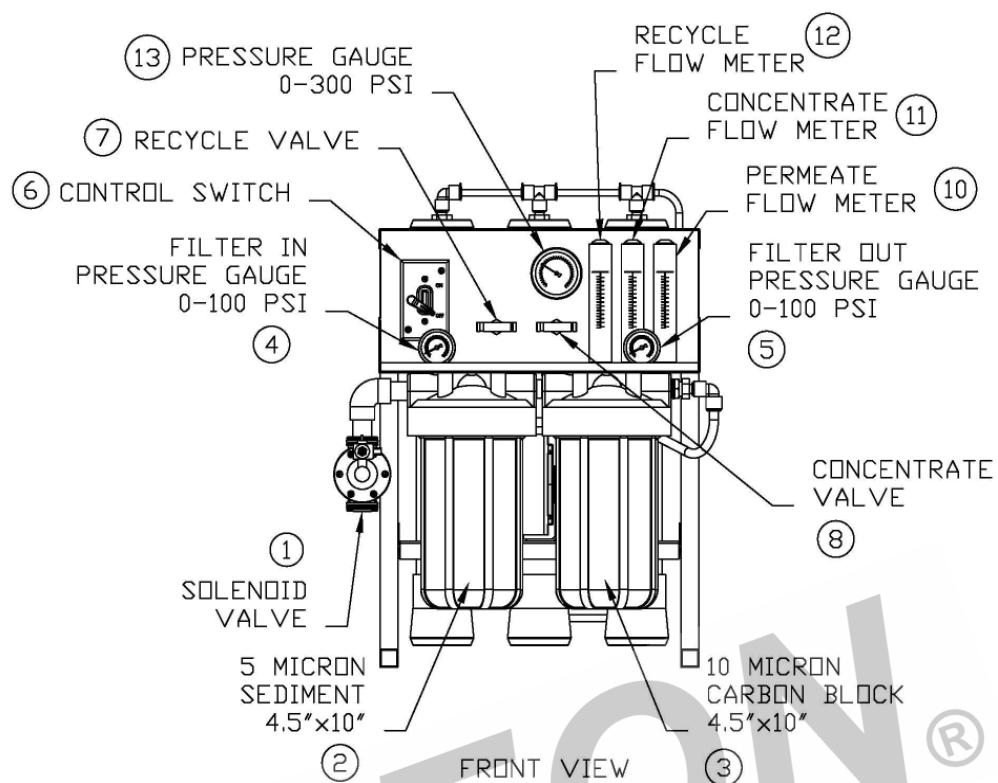

FIGURE 1B
2. Fully open the concentrate valve #8 (counter clockwise). (Figure 1B, Page 14)
3. Fully close the recycle valve # 7 (clockwise) (if applicable). (Figure 1B, Page 14)
5. Turn the feed water on and let the system purge until no visible bubbles appear from concentrate flow meter #11. (Figure 1B, Page 14)